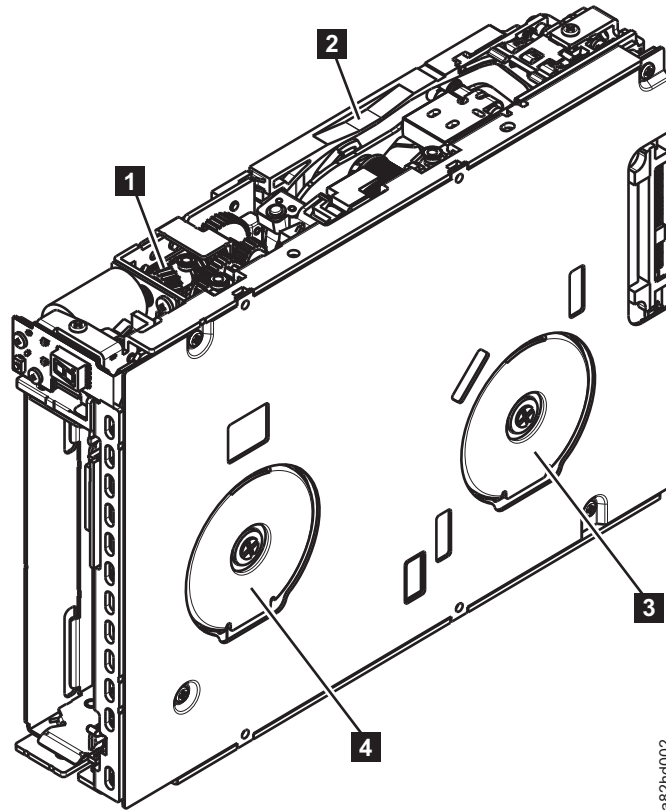

Figure E-9. Rewinding tape into cartridge
6. Turn the supply reel (**4** in Figure E-9 on page E-10) clockwise, carefully guiding the mended portion of the tape to wind around the hub of the supply reel located inside the cartridge. Continue spooling into the cartridge until the tape is taut. The tape must remain within the flanges of the tape guiding rollers. Turn the supply reel (**4** in Figure E-9 on page E-10) 10 additional turns. Ensure that you do not stretch the tape.